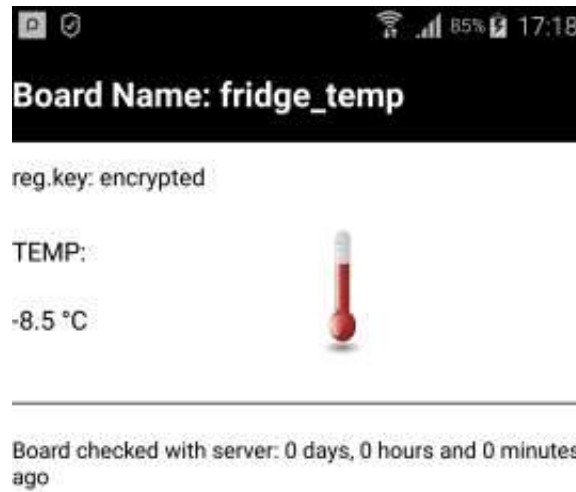

Fig 7.
10. NOW PRESSING ON THE FRIDGE\_TANK LINE WILL DISPLAY THE LIVE LOG SCREEN RELATED TO THE DOBOT BOARD THAT HAS BEEN SETUP (Fig.7). THE TEMPERATURE IS DISPLAYED ON THE SCREEN TOGETHER WITH THE LAST TIME THE DOBOY BOARD CHECKED WITH THE SERVER. THIS INFORMATION IS IMPORTANT FOR THE USER TO KNOW IF THE DOBOY AND ITS INTERNET CONNECTION ARE WORKING PROPERLY WITHIN A CERTAIN TIME PERIOD. IF FOR INSTANCE THE SCREEN DISPLAYS AN UNUSUALLY LONG TIME, IT COULD BE AN INDICATION THAT THE DOBOY OR ITS INTERNET CONNECTION OR ROUTER ARE FACING ISSUES.